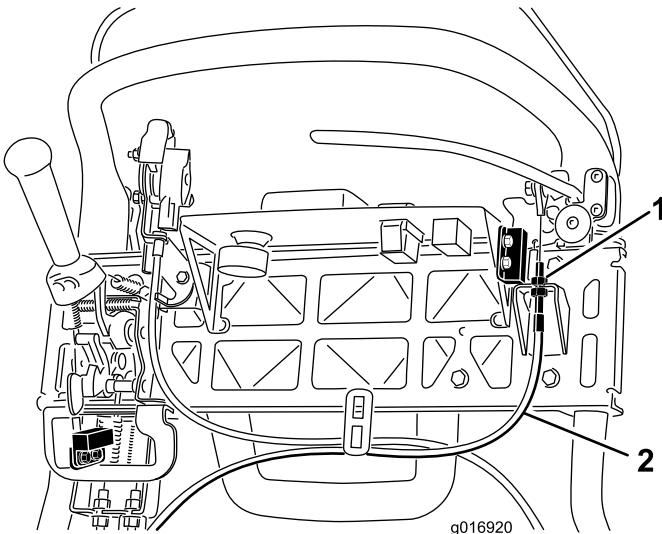

Figure 41
3. To increase the cable tension, loosen the upper cable jam nut and tighten the lower cable jam nut (Figure 41) until a force of 156 N (35 lb) applied to the brake lever handle, is required to release the parking brake latch. Do not over adjust, or the brake band may drag.